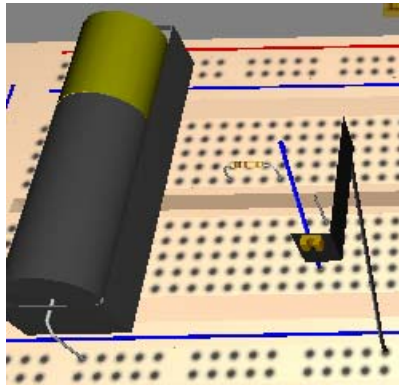

Figure 24. A Connectivity error has been introduced
6. Lets introduce failure conditions for both checks on your breadboard. First, delete connection from the positive terminal of the battery (the red wire). The result is shown in figure 24.